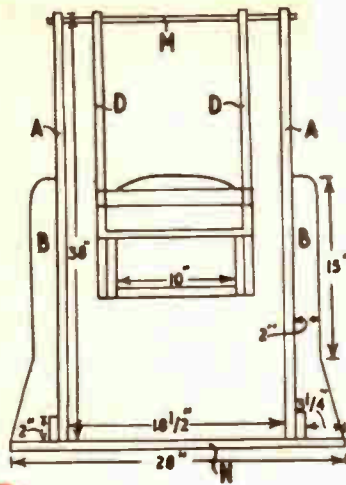

Fig. 1
Commence by making the uprights (A) and (B). Glue and screw them together, remembering that there are slots in pieces (B) to take the cross members (C). Next glue (C) in position and then the cross piece (N) (Figs. 1 and 2).